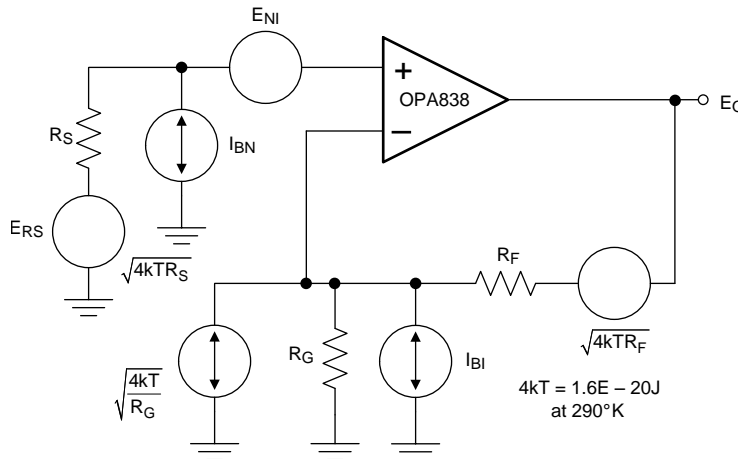
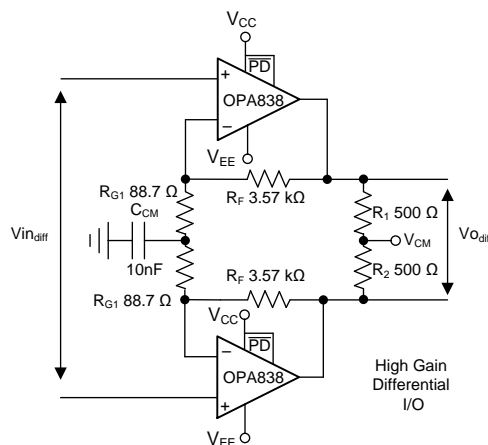
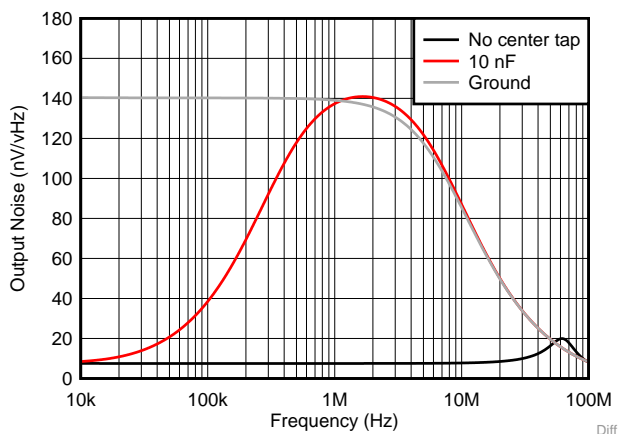

Figure 76. Op Amp Noise Analysis Model
Figure 77. High-Gain Differential I/O Stage
Figure 78. Common-Mode Output Noise for Differential I/O Design
The uncompensated voltage feedback of the OPA838 op amp offers among the lowest input voltage and current noise terms for any device with a supply current less than 1 mA. Figure 76 shows the op amp noise analysis model that includes all noise terms. In this model, all the noise terms are shown as noise voltage or current density terms in nV/ $\sqrt{\text{Hz}}$ or pA/ $\sqrt{\text{Hz}}$.
The total output spot noise voltage is computed as the square root of the squared contributing terms to the output noise voltage. This computation is adding all the contributing noise powers at the output by superposition, then taking the square root to return to a spot noise voltage. Equation 3 shows the general form for this output noise voltage using the terms presented in Figure 76.
A high-gain differential-to-differential I/O circuit can be used to drive a second-stage FDA or a differential-to-single-ended stage. This circuit is frequently used in applications where high input impedance is required (for example, if the source cannot be loaded). Figure 76 illustrates an example design where the differential gain is 41 V/V. An added element between the two R_G resistors increases the noise gain for the common-mode feedback. It is important to provision for the added element because a decompensated VFA (like the OPA838) often oscillates without it in this circuit. With only the R_G elements in the differential I/O design, the common-mode feedback is unity-gain and often causes high-frequency, common-mode oscillations. To resolve this issue, split the R_G elements in half and add a low-impedance path such as a capacitor or a DC reference between the two R_G values.
As an example design, start with the circuit in Figure 77.
- Assess the DC common-mode biasing on the noninverting inputs. The DC biasing must be in range and have a gain of 1 to the output. This is not illustrated in Figure 76.
- If a DC reference is used as the mid- R_G bias, setting the reference equal to the noninverting input bias voltage sets the output common-mode to that voltage. Using a capacitor as illustrated in Figure 76 accomplishes the same results.
- Set the total R_G value near the high gain values using Table 1. This 178- Ω total must be split for a center tap to increase the common-mode noise gain, as shown by the 88.7- Ω value in Figure 77.
- Simulate the common-mode noise with different elements on the R_G center tap, as shown in Figure 78. Decide which is most appropriate to the application.
The common-mode loop instability without the R_G center tap is not often apparent in the closed-loop differential simulations. It can often be detected in a common-mode output noise simulation as Figure 78 shows. Grounding the inputs Figure 77 and running a output noise simulation for the common-mode tap point in Figure 76 shows a peaking in the noise at high frequency. This peaking indicates low-phase margin for the common-mode loop. Figure 78 shows this peaking in the lowest noise curve, with two options for improving phase margin. The first option used in Figure 77 is a capacitor to ground set to increase the common-mode noise gain only at higher frequencies. This can be seen by the peaking in the common-mode noise of Figure 78. Another alternative is to provide a DC voltage reference on the R_G center tap. This raises the common-mode noise gain from DC on up in frequency. Neither of these latter two show any evidence of low phase margin peaking. They do increase the output common-mode noise significantly at lower frequencies. Typically, an increase in output common-mode noise is more acceptable than low-phase margin as the next stage (FDA, ADC, differential to single stage) rejects common-mode noise.